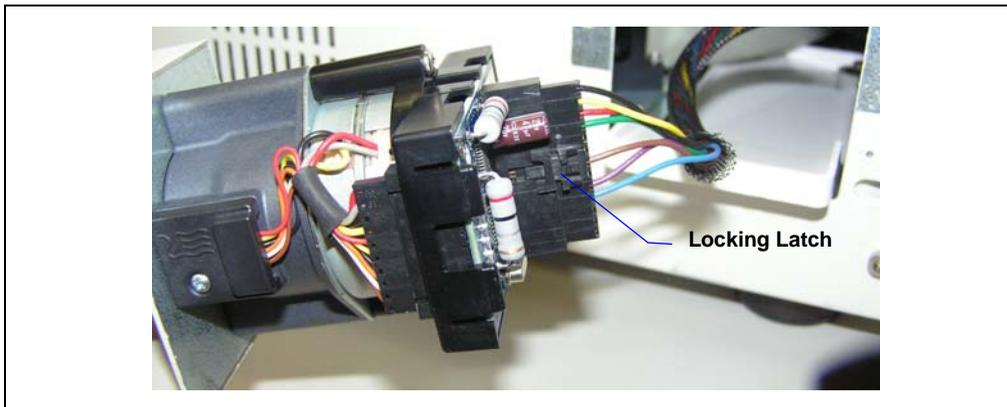

Figure 5-14. Disconnecting the Valve Cable
- b. Slide the valve assembly partway out of the chassis, press the locking latch on the cable (see Figure 5-14), and disconnect the cable.